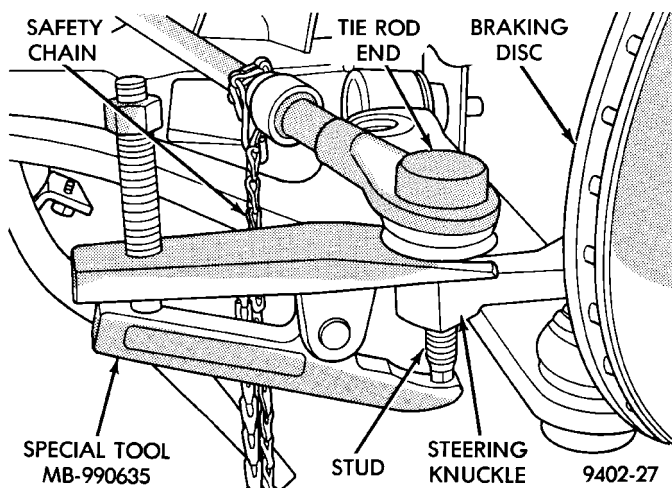

Fig. 21 Tie Rod End Removal From Steering Knuckle
(3) Remove the tie rod end stud from steering knuckle arm, using Remover, Special Tool MB-990635 (Fig. 21).
(4) Remove the outer tie rod end from the inner tie rod by un-threading it from the inner tie rod.